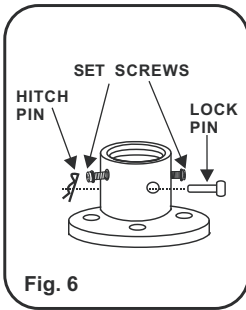

Fig. 6
Step 2. Loosen the two set screws and remove the hitch pin and lock pin from the top coupling of the motor assembly.(Fig 6)